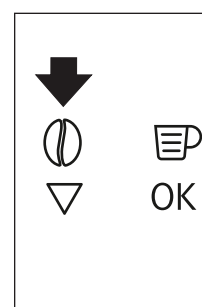

Fig. 15
- ▶ Press the ☉ icon (B4) (Fig. 15) and select the pre-ground coffee function.